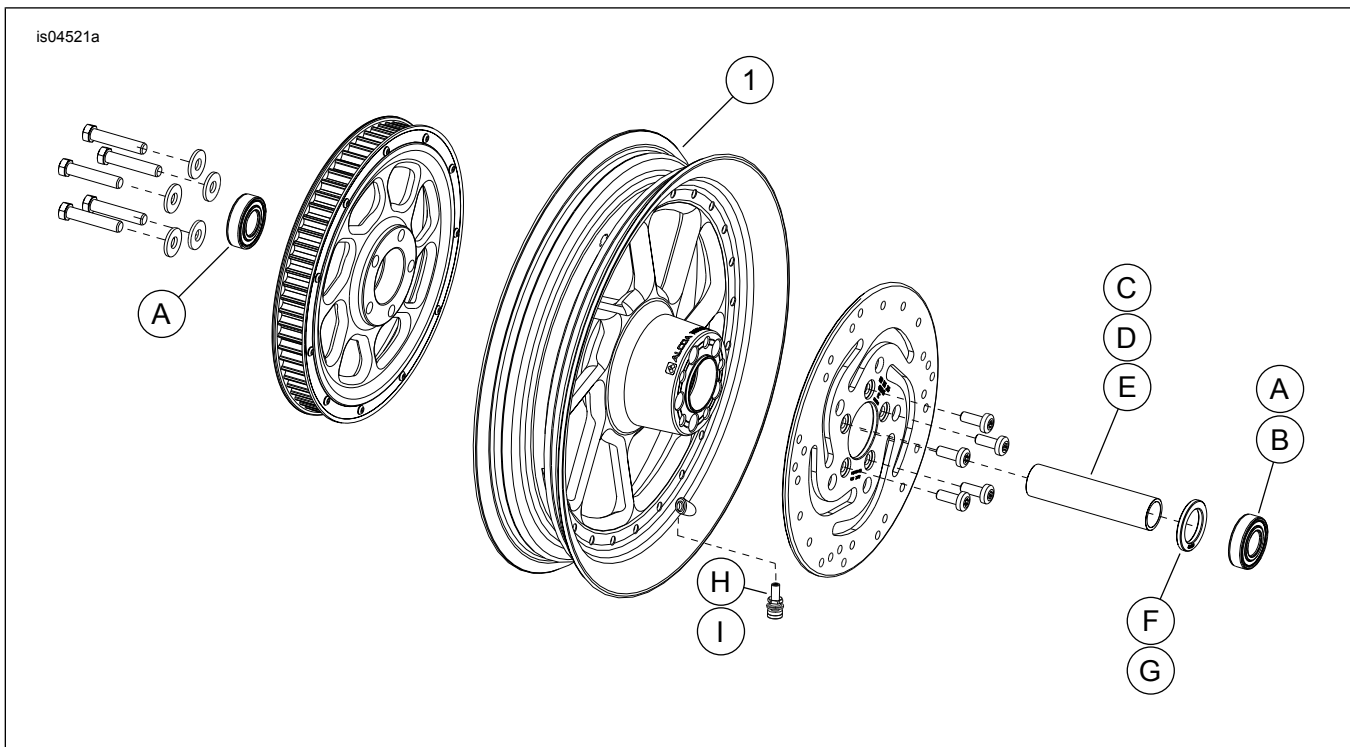

Figure 1. Service Parts: Rear Road Winder Wheels
See Figure 1 and Table 2.
2. See Figure 1. Install valve stem assembly (H or I) on wheel. Refer to the service manual.